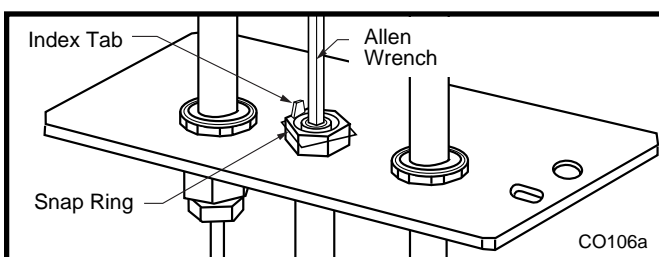

Fig. 27 Remove pilot orifice.
14. Remove pilot orifice with allen wrench. (Fig. 27)